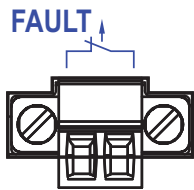

Figure 2: 2-pin terminal block
- ▶ The signal contact (“FAULT”, for pin assignment of terminal block, see fig. 2) monitors the functioning of the device, thus enabling remote diagnostics. You can specify the type of function monitoring in the Management.